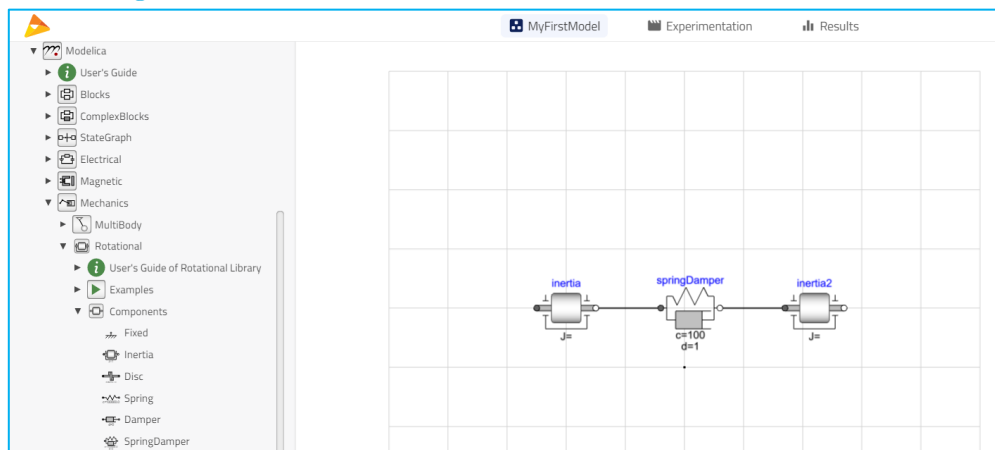

Figure 11 Connected components
8. Drag-and-drop two **Inertia** models and a **SpringDamper** model. Connect the components as shown in Figure 11.